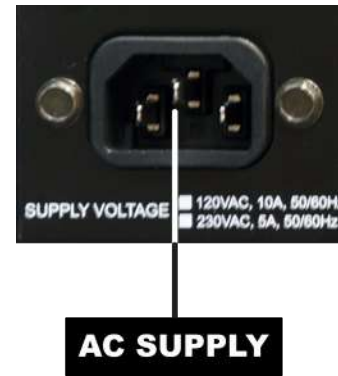

Figure 3.3 – Closeup of AC Mains Outlet
The power cord connects to a standard 15A 3-pin IEC-type male connector on the back panel (see **Figure 3.3**). Make sure the power switch on the front panel is switched to the OFF (O) position. Make sure the power cord is inserted and seated fully into the IEC connector by moving it slightly back and forth and up and down while pushing in. The power cord is relatively stiff and should be routed so that there is no excessive force pulling to the sides or up or down that would stress the pins or internal connections.